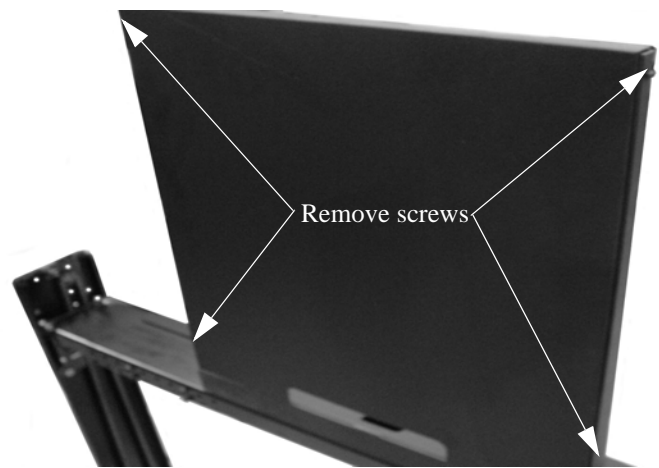

Figure 11. Back Panel Cover Removal
1. Remove 4 screws and slide back panel cover up and out (see Figure 11).